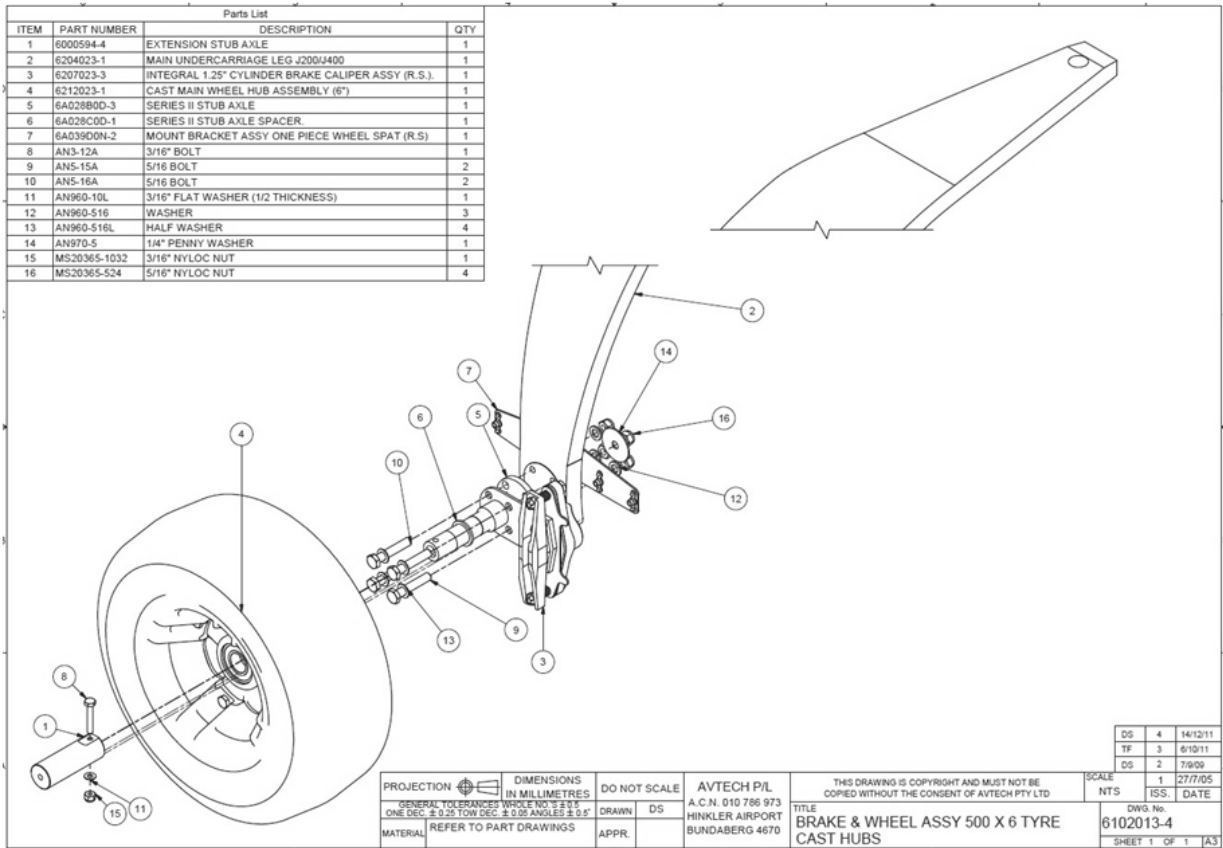

Figure 43 – Main Wheel to Leg Assy
- Figure 43 shows a typical installation. While details and part numbers vary from model to model the general arrangement shown applies to all aircraft.
- 2. While older and lighter aircraft models use a hollow axle stub, most recent aircraft use a solid version of the same part. When using the solid axle, an Aluminium bearing spacer ring must be fitted to the stub before the wheel assembly – see Figure 43. This part is not required for hollow axles.